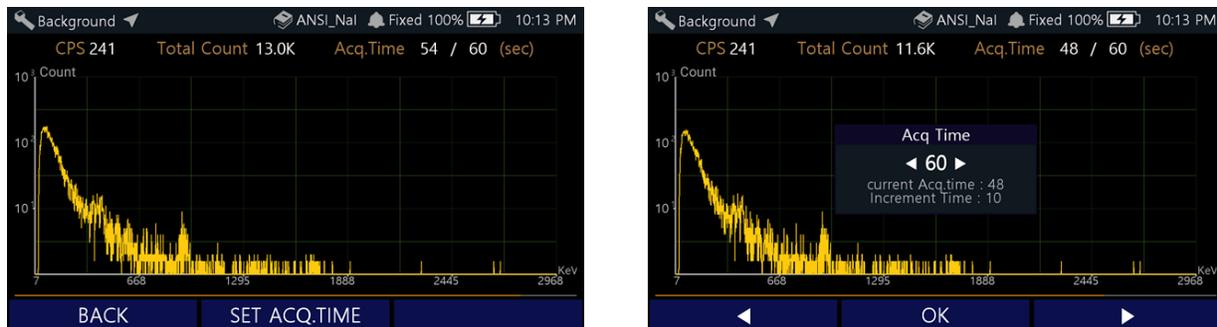

Figure 5.3.2. Background Measurement and Time Setup
4. A spectrum will begin and will automatically update during the measurement (Figure 5.3.2.)
Refer to **Section 7.9.4.6. Background Measurement Time**. **SET ACQ. TIME** allows user to manually increase/decrease background measurement as shown in figure 5.3.2.